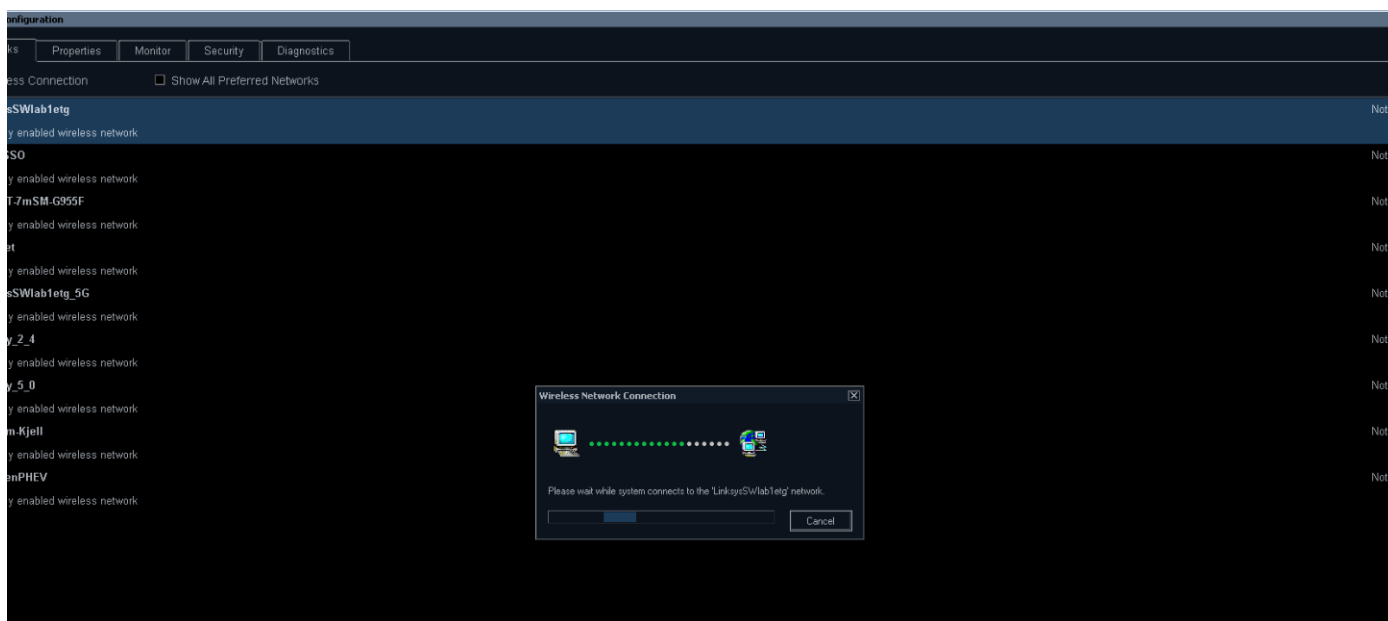

Figure 3-40 Connecting To Network Dialog
- 11.) After you have finished setting up your connection press **OK**. The system will then try to establish a connection to your network. A dialog will be shown on screen while this is in progress - See Figure 3-40.